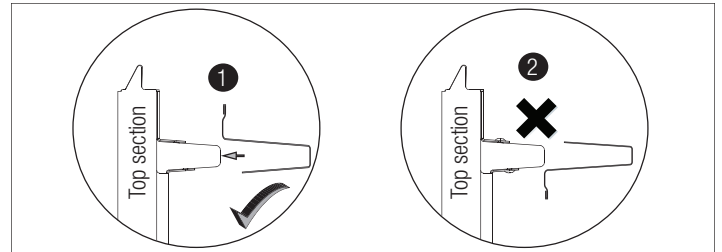

Figure 20, Left Side Shown
**IMPORTANT:** When securing the asymmetrical strut to the top section, it is recommended not to install any fasteners into the short leg of the asymmetrical strut. See Figure 20 for correct orientation.